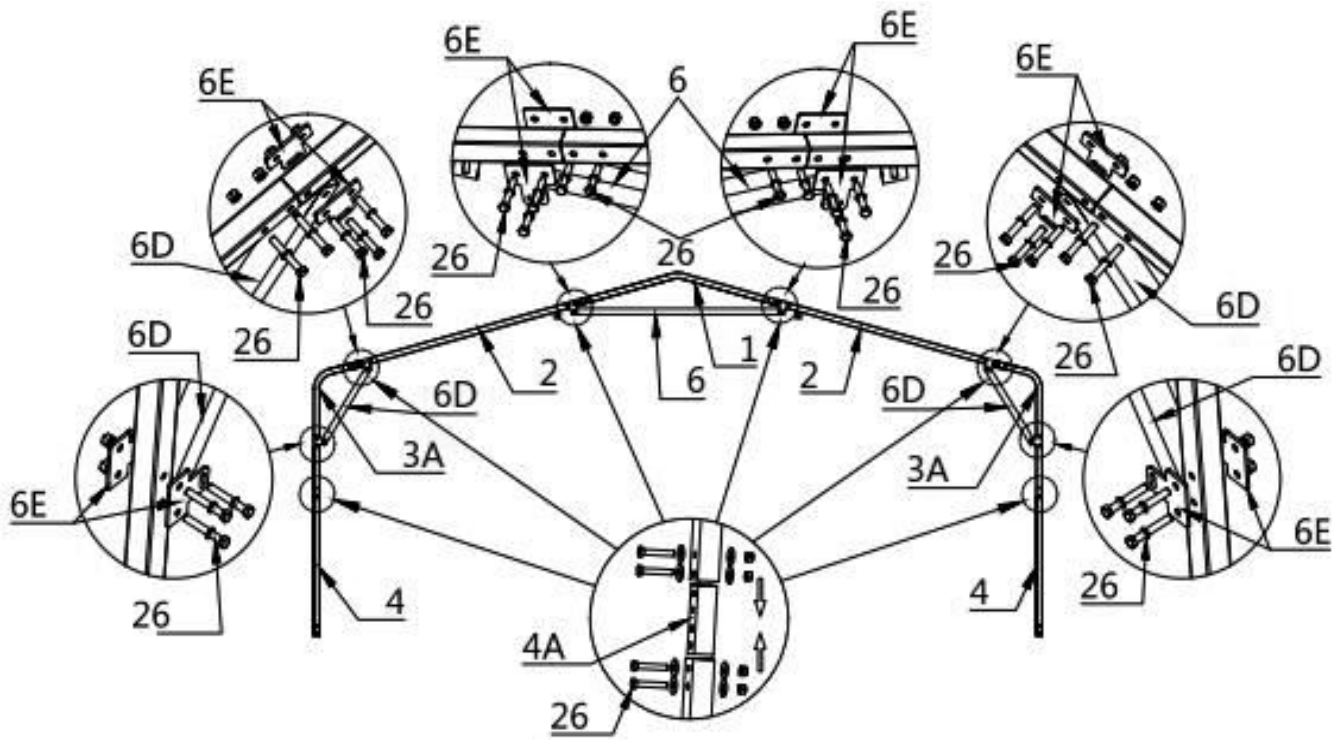

**Figure 2**
- Parts used to install the front and rear truss in this step (refer to figure 2).